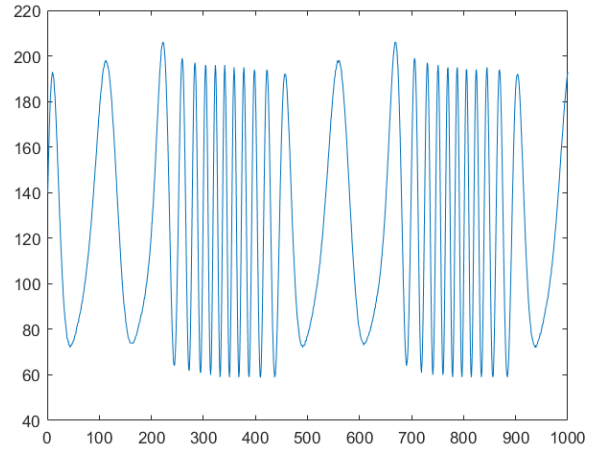

Fig. 3: Received FM signal
- 7) The sampled received signal has been plotted in MATLAB, as can be seen in Fig. 3.